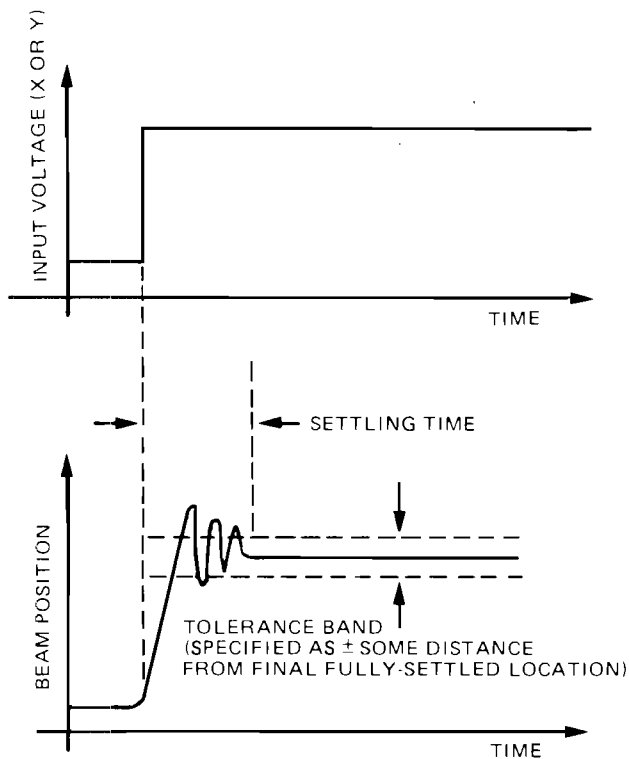

Figure 3-5. Settling Time
**3-25. SETTLING TIME.** Settling time is defined as the elapsed time between an input step command and the time for the beam to settle within a specified tolerance to its final position (see figure 3-5). Settling time must be taken into account when moving the beam from one location to another. Otherwise, there may be tails on dots or line distortions at the starting point of vectors.